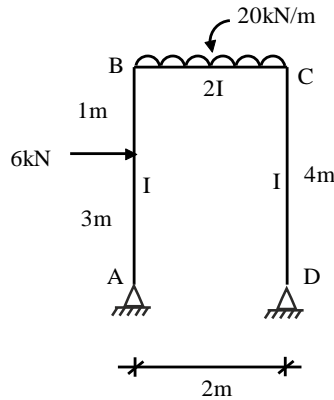

Fig. 5
5. Analyse the frame as shown in fig. 5. by strain energy method and draw BMD. 14